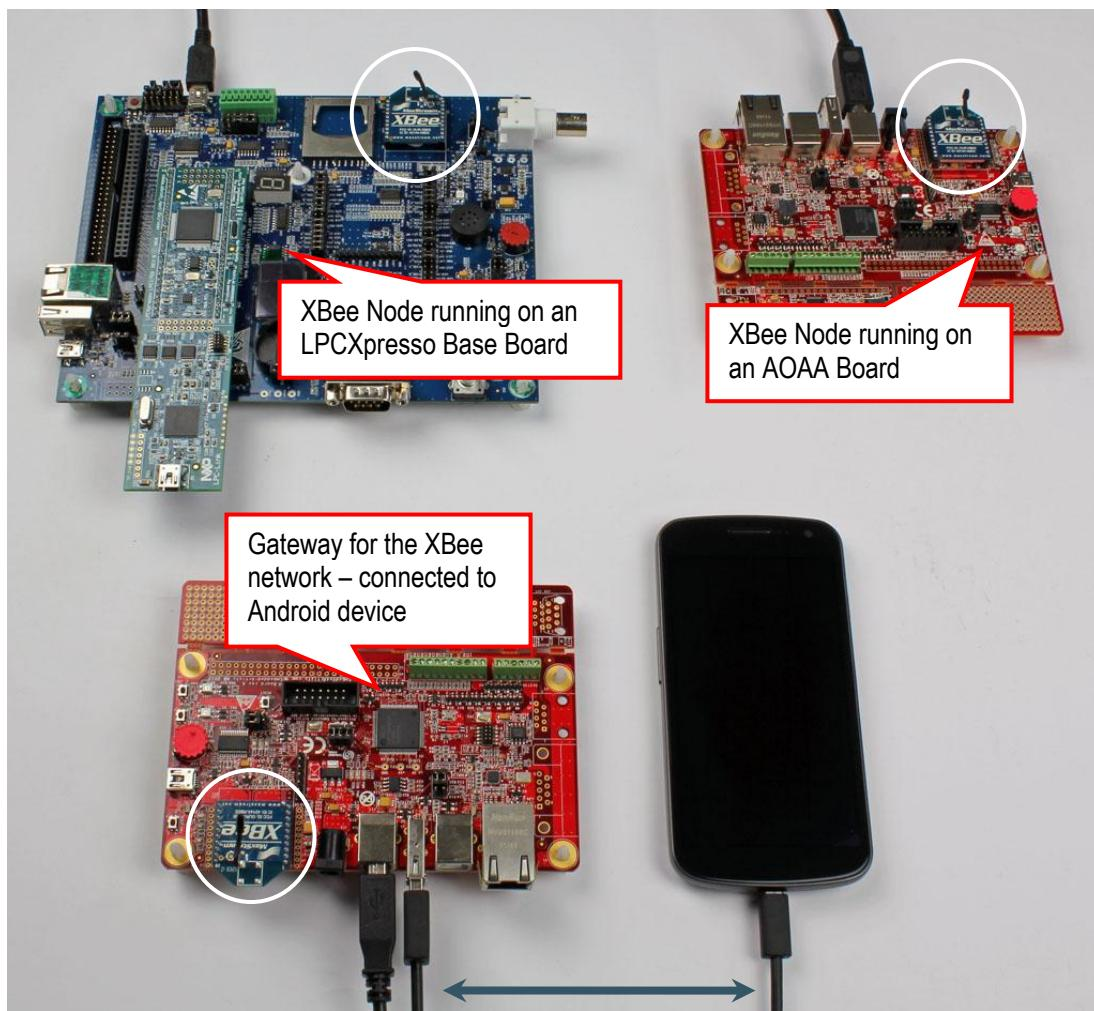

Figure 12 - XBee Demo Setup
Note that at least two XBee modules are needed: one on the AOAA Board acting as a gateway and the second on the board acting as an XBee node. In Figure 12 there are three XBee modules since two XBee nodes are connected to the gateway.
- 4) Connect the Android device to the AOAA Board as shown in Figure 12.
In this setup a second AOAA Board is used as an XBee node. Please note that more than one node can be active simultaneously. This means that if both the AOAA Board and the LPCXpresso Board acts as XBee nodes (see Figure 12) two nodes will present in the list of nodes in the Android Application.
- 4) Connect the Android device to the first AOAA Board as shown in Figure 12.